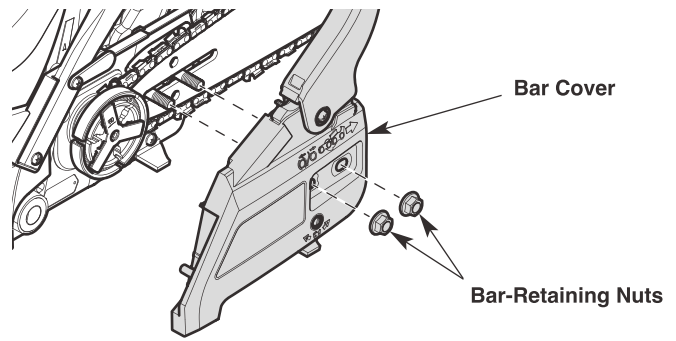

Fig. 29
2. Use the screwdriver or a 1/2 inch (13 mm) wrench to loosen the bar-retaining nuts (Fig. 29).
3. Remove the bar-retaining nuts and bar cover (Fig. 29).